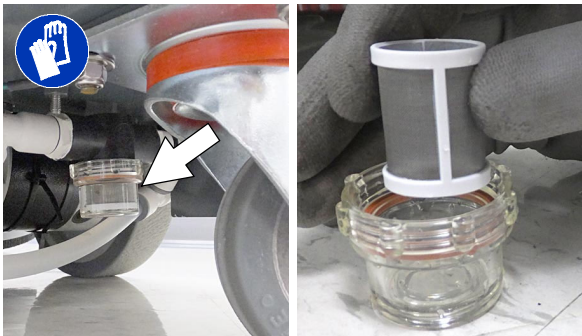

FIG. 102
- 1. Remove the solution tank filter and clean screen (Figure 102). Turn the filter bowl counter-clockwise to remove. Make sure to drain solution tank before removing filter.